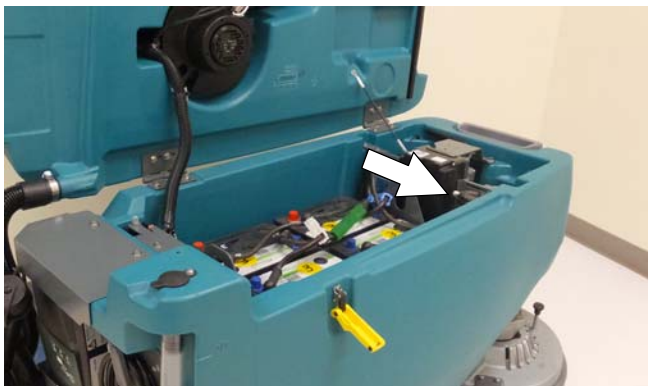

FIG. 93
2. Lift the recovery tank to access the ec-H2O water conditioning cartridge (Figure 93). Drain recovery tank before lifting tank.